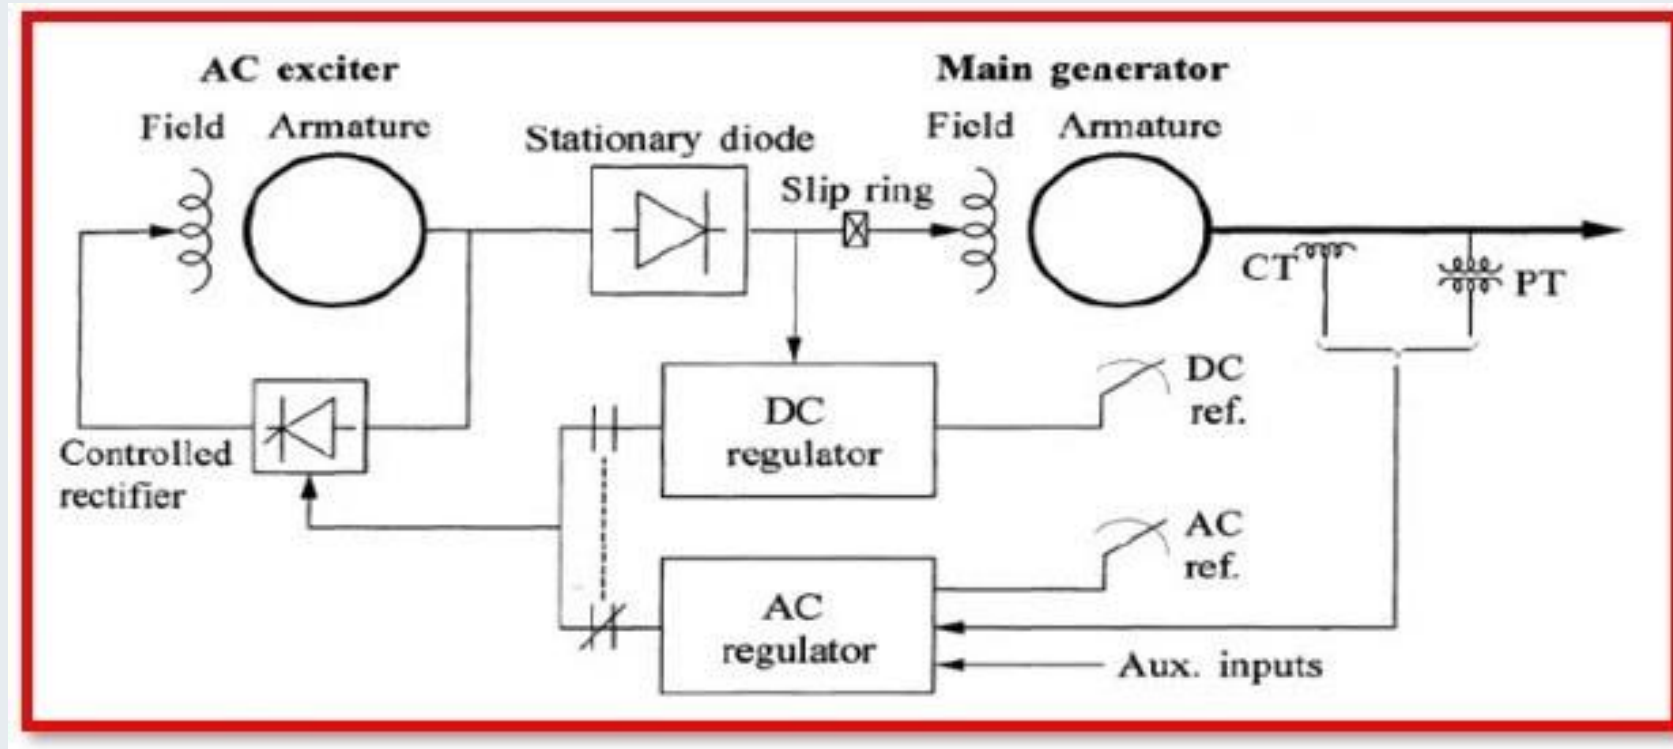

Figure 5. AC excitation system.
<https://www.researchgate.net/publication/270915156/figure/fig5/AS:1088660296470549@1636568249232/The-schematic-block-diagram-of-the-generator-excitation-control-system.jpg>
- Figure 5 displays the fundamental building parts of an AC excitation system.